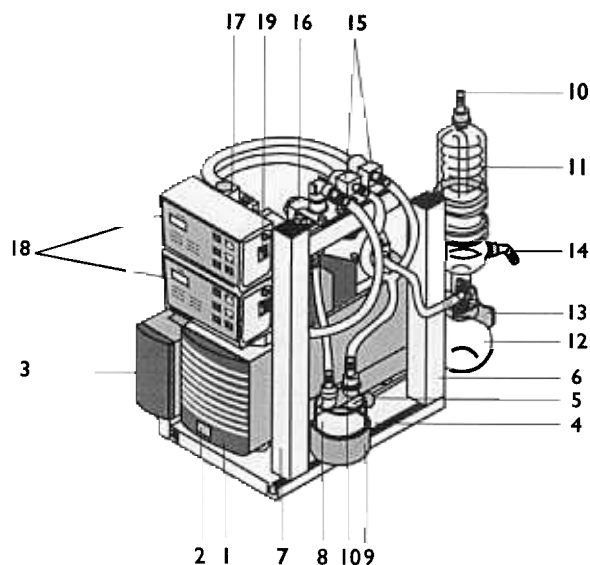

Figure 1: Complete expanded D-LAB System SCC eg. pump model D-LAB 34-8
- ★ Required tool: 1 Allen key 5 mm.
- Slide the support post (more exactly: its clamp assembly) into the end of the Baseplate Mounting Slot (positioning as shown in figure 1).